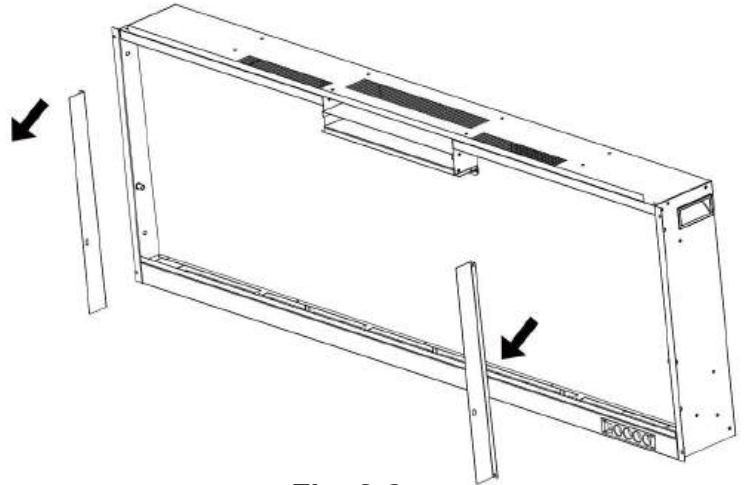

Fig. 2-2
B. Remove the two brackets and set them aside. (**Fig. 2-2**)